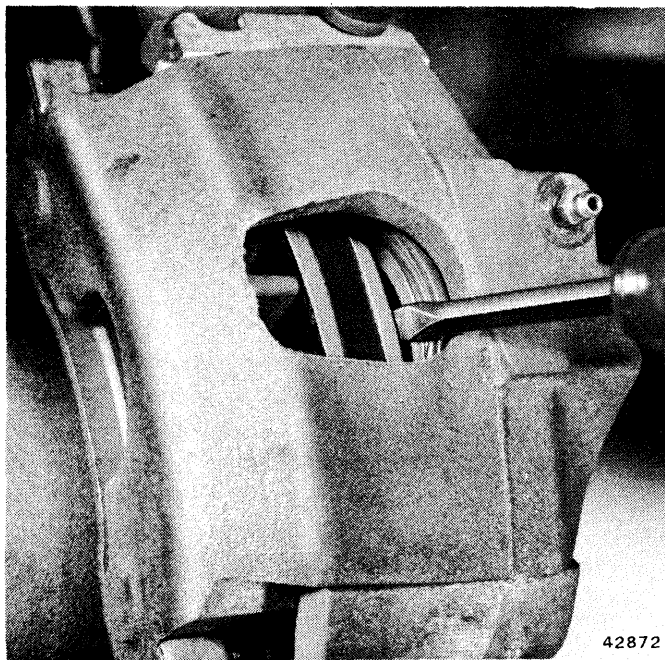

Fig. 9-44 Bottoming Caliper Piston
(2) Remove hub cap and loosen wheel retaining nuts.
(3) Raise and support vehicle.
(4) Remove front wheels.
(5) Work on one caliper at a time only.
(6) Press caliper piston to bottom of piston bore using screwdriver (fig. 9-44).